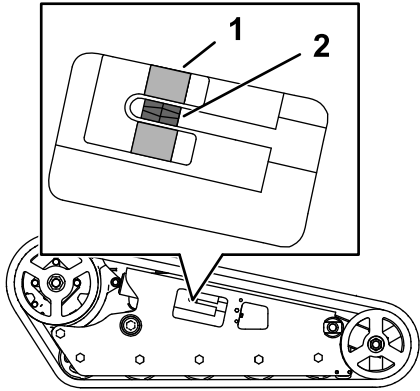

Figure 56
Verify that the tension block is aligned with the green guide on the decal or that the block is 1.3 cm (1/2 inch) away from the rear of the tension tube slot (Figure 56). If it is not, adjust the track tension using the following procedure:
4. Using a 1/2 inch drive ratchet, turn the tensioning screw counter-clockwise until the tension block aligns with the green guide on the decal or is 1.3 cm (1/2 inch) away from the rear of the tension tube slot (Figure 56).
8. Verify that the tension block aligns with the green guide of the decal or is 1.3 cm (1/2 inch) away from the rear of the tension tube slot for both tracks (Figure 56). Adjust if necessary.